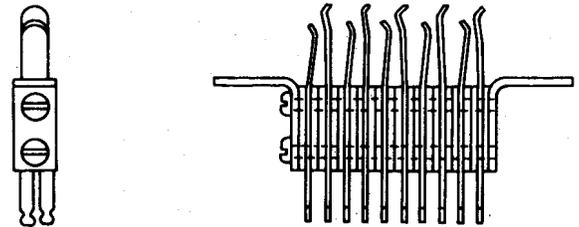

Fig. 2—354A Jack
2.02 354: This multicontact jack (Fig. 2) is used with the 240D plug in the test set of the rotary test circuit of Step-By-Step Dial Systems.